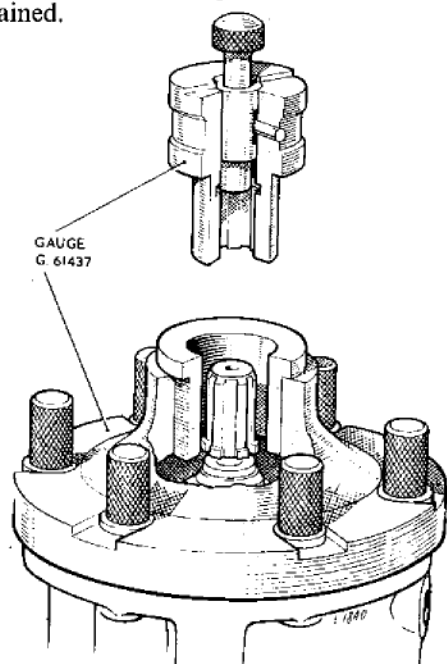

Fig. 2. Checking the quillshaft concentricity
9. Check the concentricity of the quillshaft, using the gauge G.61437, as shown in *fig. 2*. If the quillshaft will not accept the gauge, the pump must not be run on the test rig. Examine the quillshaft splines for any damage or burrs which may have fouled the gauge; if no damage is apparent, it will be necessary to remove the rotor assembly from the pump and check the quillshaft 'run-out' as described in Chapter 9C.